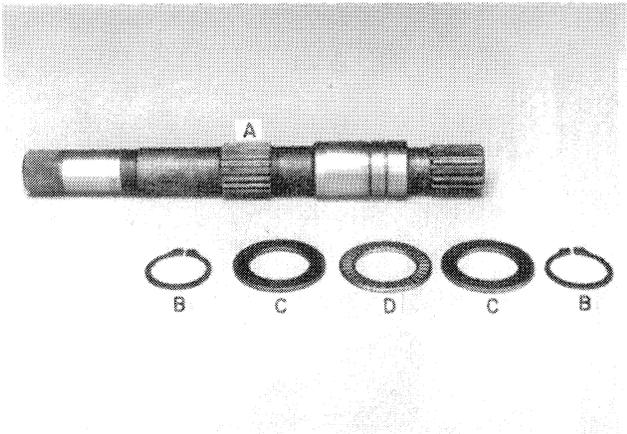

FIGURE 4-14
d. The shaft and related parts are shown in Figure 4-14.